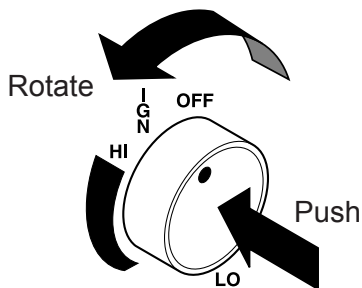

**Figure 44 - Location of Piezo Ignitor, Control Knobs and Switch on Milli-volt, Thermostat, and Manual Units**
4. See *Figure 44, page 32* for the location of the piezo ignitor and control knob. Push in gas control knob slightly and turn control knob clockwise  to the OFF position.